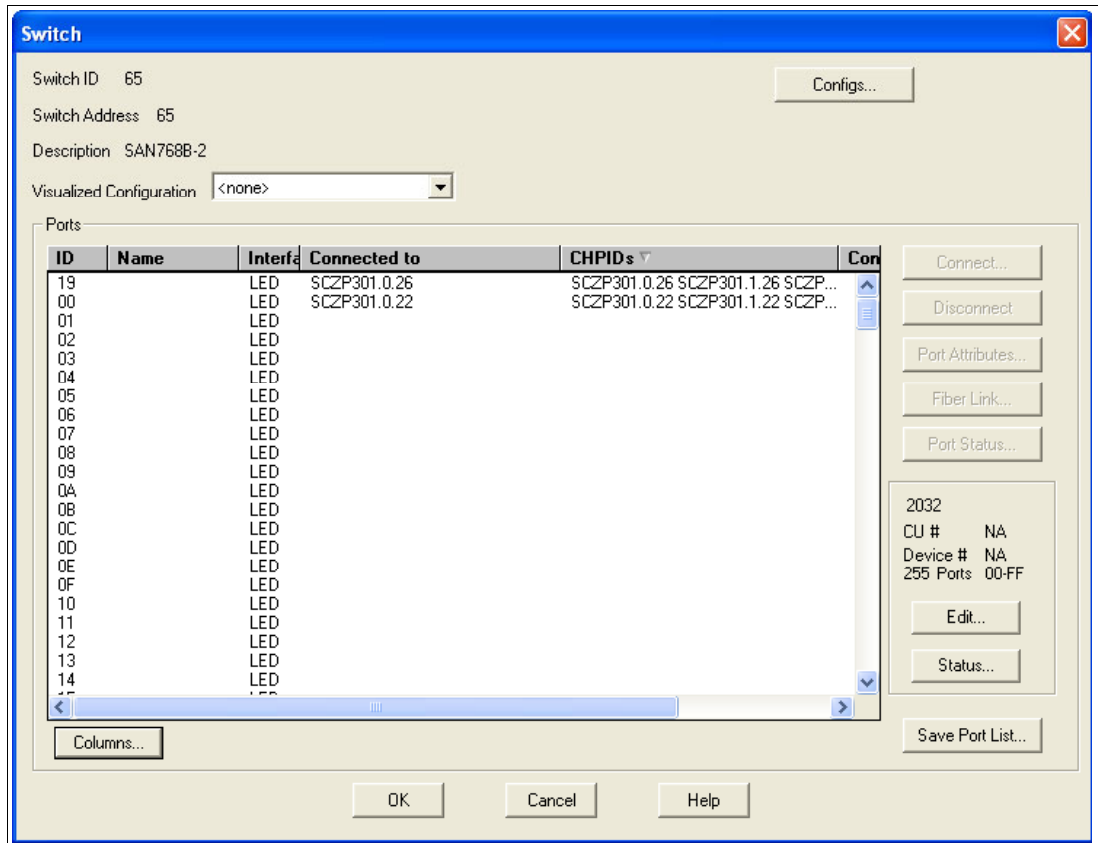

Figure 6-18 HCM Ports connected to Channel Paths
14. Perform the same action for CHPID 26 and Port 19. See Figure 6-18 on page 170.